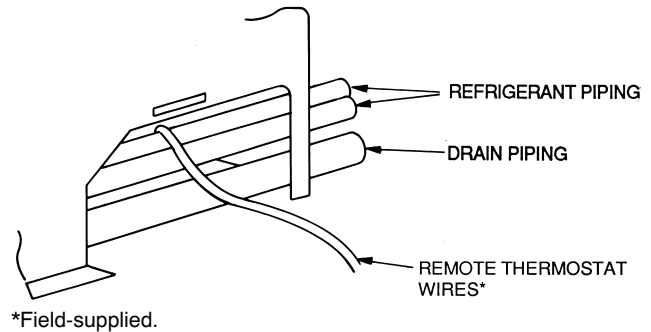

Fig. 24 - Routing Wires Over Piping
3. Route wires over refrigerant and drain piping as shown in Fig. 24.